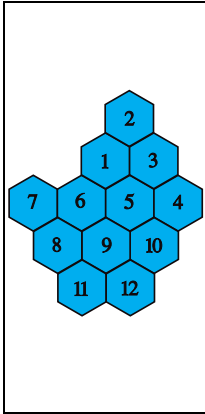

Fig. 10.11:
GSM is a cellular network. The cells are theoretically organized in an hexagonal honeycomb structure (Fig. 10.11). A mobile station (MS) that is located in any cell can be reached from the network and later it will be possible to reach it worldwide from any other cell.